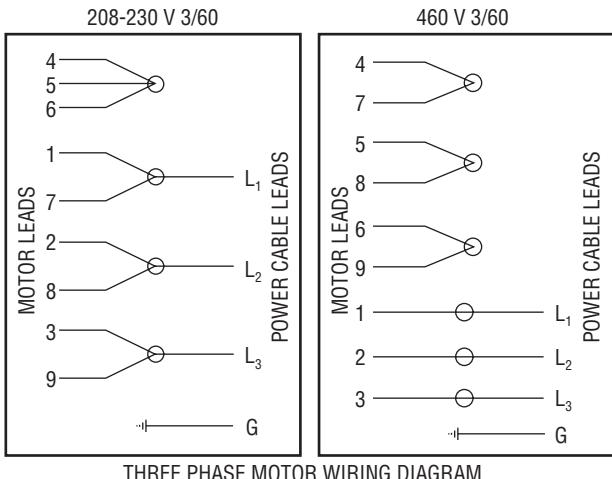

Figure 1
- Three Phase Motors – See Figure 1.